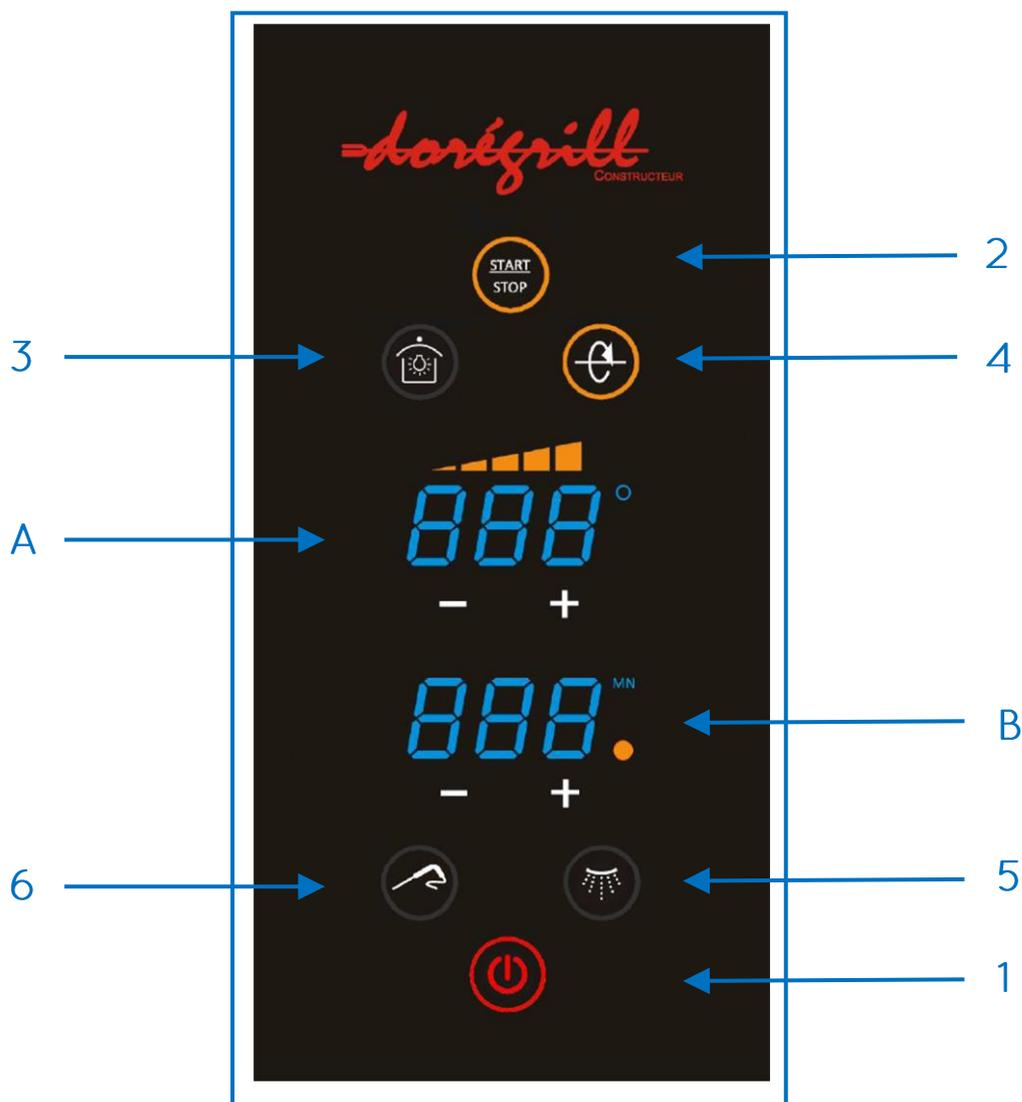

Fig. 3: Control panel
- A control panel **13** *(Fig. 3)*.